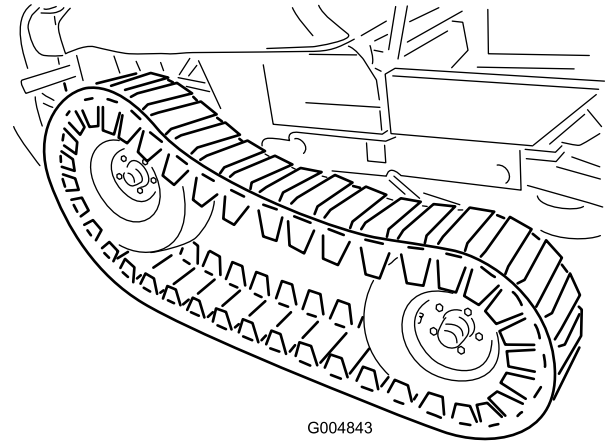

Figure 30
21. Adjust the floor jack to a suitable height to install the front tire. With a helper, lift the front of the track enough to carefully install the front tires (Figure 30).